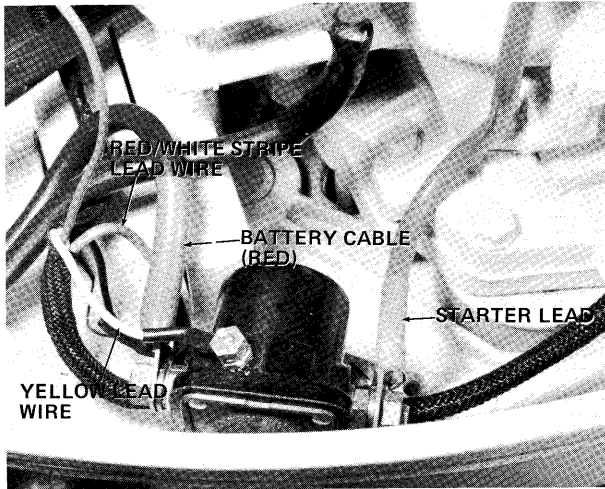

Figure 4 - Removing Leads from Starter Relay
- B. Remove nut securing positive battery lead wire (black with red end) and small red/white stripe lead wire to forward stud terminal of starter relay and remove both leads, as shown in figure 4.
- C. Remove nut securing yellow lead wire to top stud terminal on starter relay and remove lead wire. See figure 4.
- D. Remove nut securing red lead wire (relay to starter motor) to rear stud terminal of starter relay and remove lead wire. (See figure 4.)